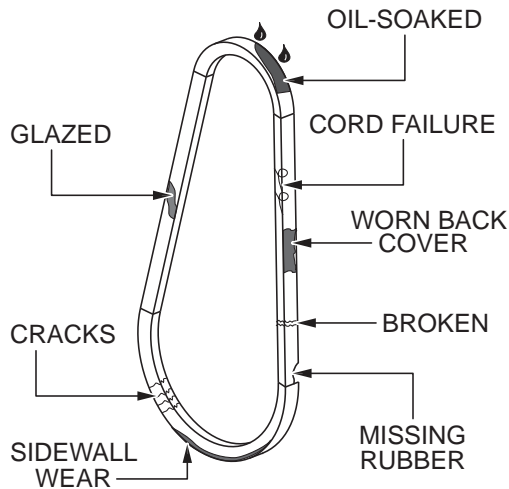

Figure 26. V-Belt Inspection
1. Inspect the V-belt (Figure 26) to determine if it is frayed, peeling, full of tiny cracks, has pieces of rubber missing, or is otherwise damaged.
2. Inspect the V-belt (Figure 26) to determine if it is oil-soaked or glazed (a hard, shiny appearance on the sides of the belt). Either of these conditions can cause overheating of the belt, which may weaken the belt and increase the danger of it breaking.